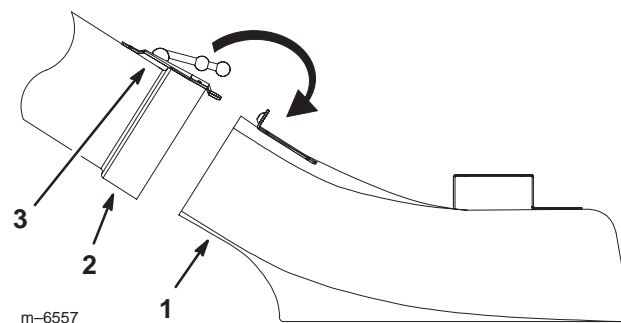

Figure 18
4. Install the straight tube onto the boot and secure it with the rubber latch (Fig. 18).
11. Install the tube assembly onto the boot and secure it with the rubber latch (Fig. 18).